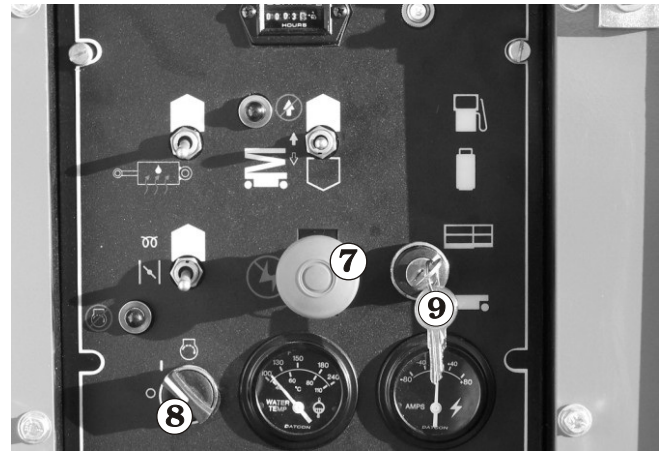

Figure 10.2
1. Push the **Emergency Stop** switch 7 down (OFF) and set the **Main Power** switch 8 to OFF then remove the key 9 (see Figure 10.2).